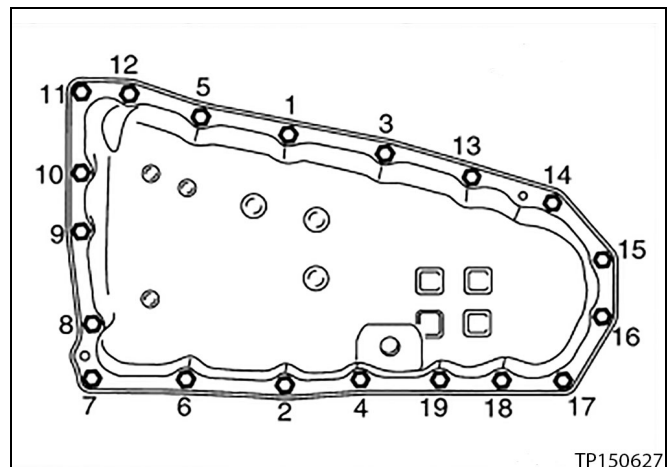

Figure 11
14. Install the oil pan bolts (see Figure 11).